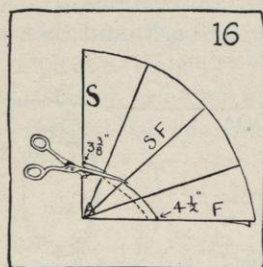

FIG. 16.
- (7) Draw a dotted line exactly $\frac{1}{2}$ inch inside the headsize line (see Figure 16).
- (8) Cut on the dotted line (see Figure 16).